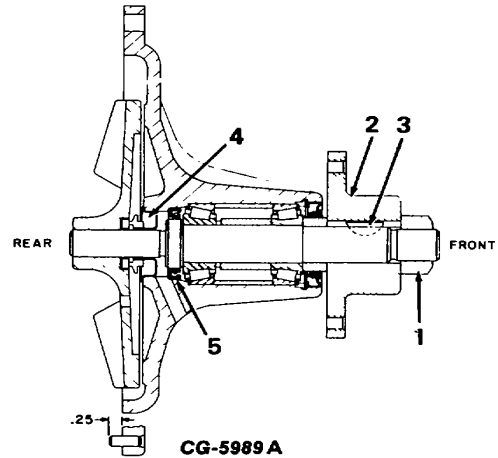

Figure 18. - Water Pump Cross Section (Nut Retained Hub)
3. Remove the hub nut (1, Fig. 18) hub (2), and key (3) (if equipped), as shown in the sectional view of the water pump.
7. Drive out the metal part of the water pump seal (4, Fig. 18) from the front of the housing, and rear bearing grease seal (5) from the rear. Discard both parts.